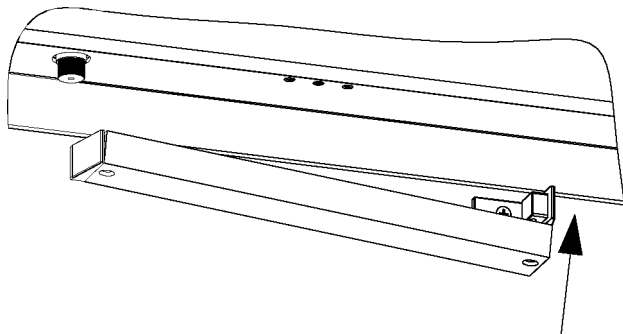

Fig. 19
10. Press the other end of the track onto the track bracket as shown in Fig. 19 and assemble using the two 1/4-20 x 9/16" flat-head screws supplied.